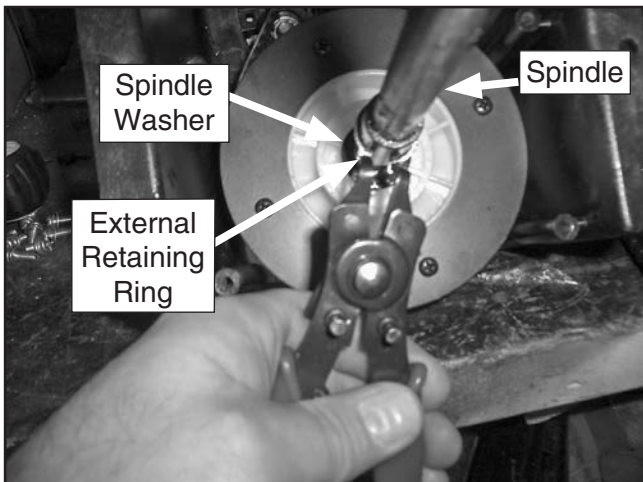

Figure 25. Removing external retaining ring and washer from spindle.
10. Remove 17mm external retaining ring (#50) and spindle washer (#51) from spindle (#55), as shown in **Figure 25**.